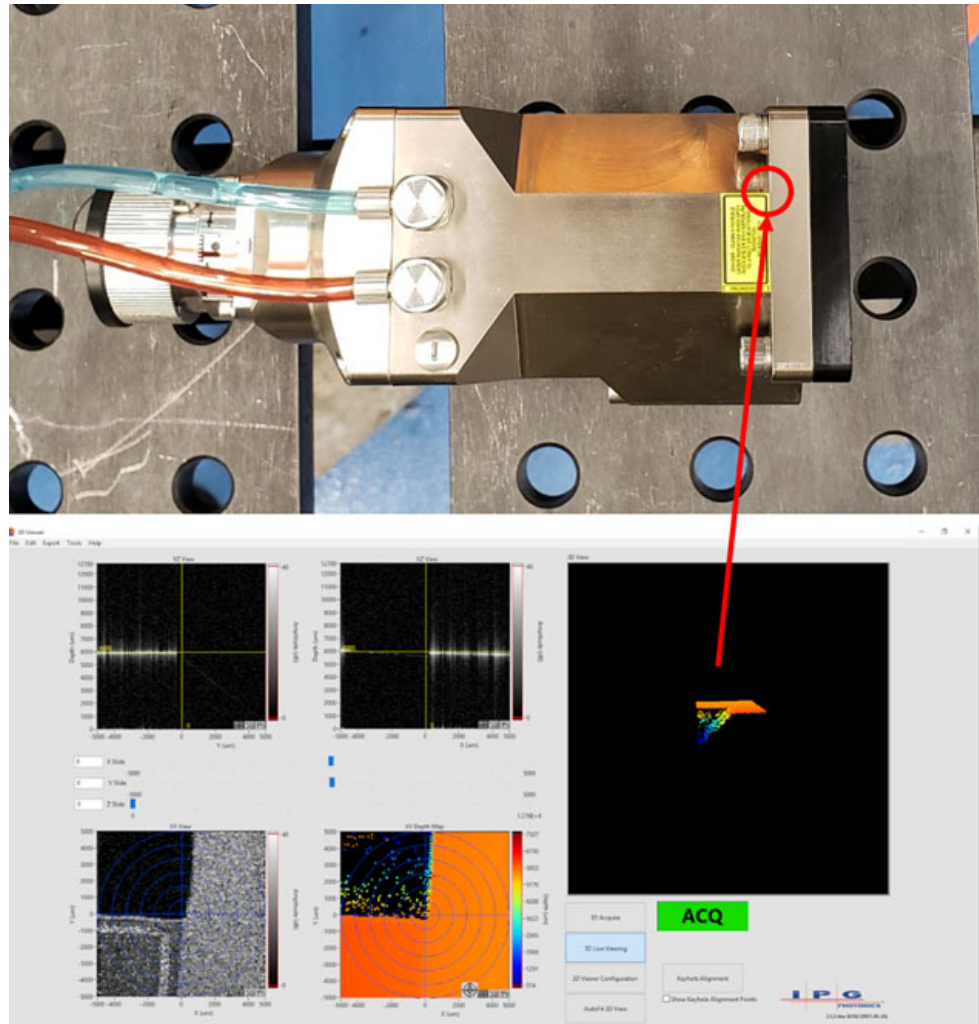

Figure 286: Example of using LDD to Locate Part Features for Alignment
- c. With the galvos parked at 0, 0, 0 in the FOV, the user can then accurately align the robots TCP with the desired part location by observing the camera or LDD crosshair setup while the robot is jogged into the correct position on the part. Figure 286 (below) demonstrates an example of how the LDD imaging system can be used to locate features on a 3D surface.